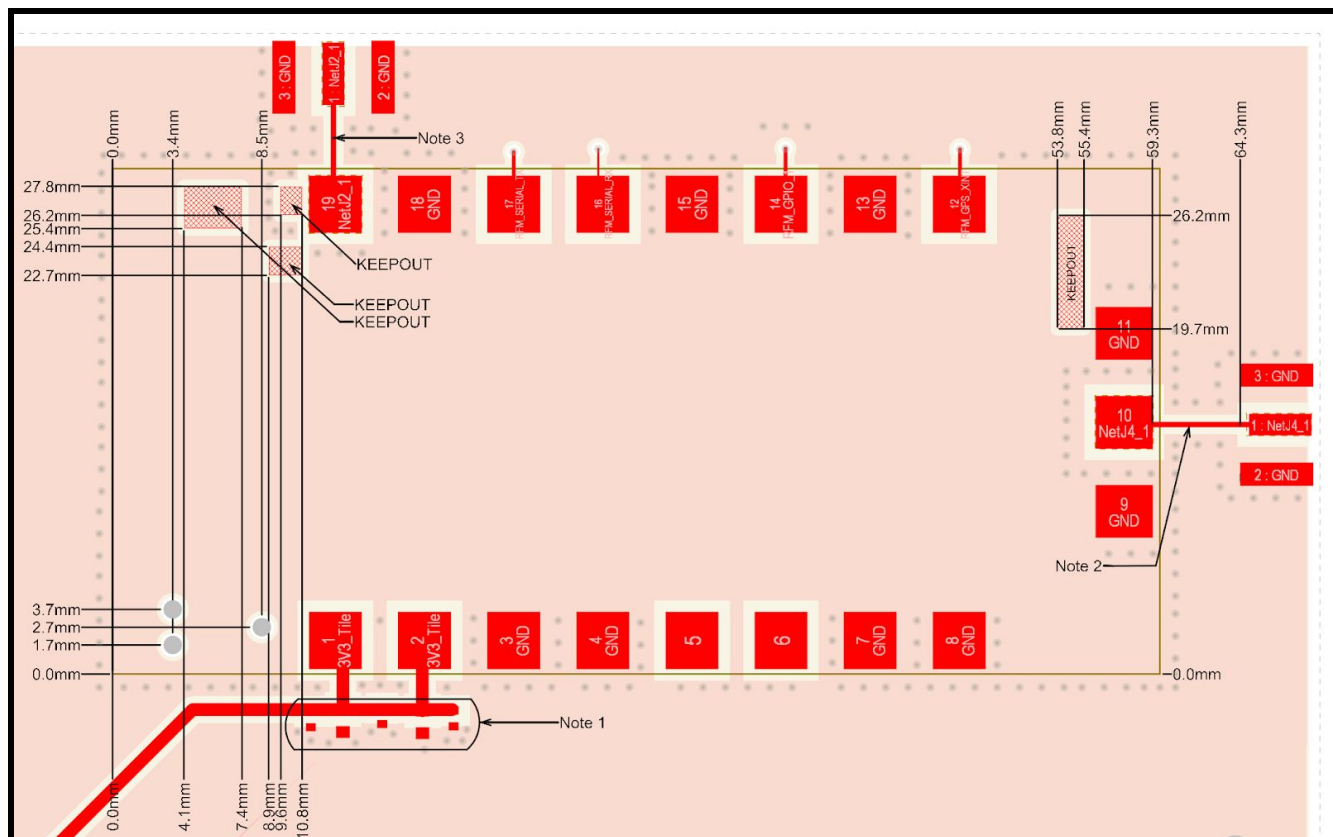

Figure 8: RF trace routing and keep out area for RF output (top layer).
The Tile is certified with a PCB edge SMA connectors [\[Samtec Part Number SMA-J-P-H-ST-EM1\]](#) for the RF and GPS outputs, with a micro-strip trace layout (along with copper keep-out areas) as shown in **Figure 8**.
- Place GND vias close to module GND pads as possible. An example layout can be found in **Figure 8**.
- Ensure there is no copper in the keep-out areas on any layer of the host PCB as can be seen in **Figure 8**.